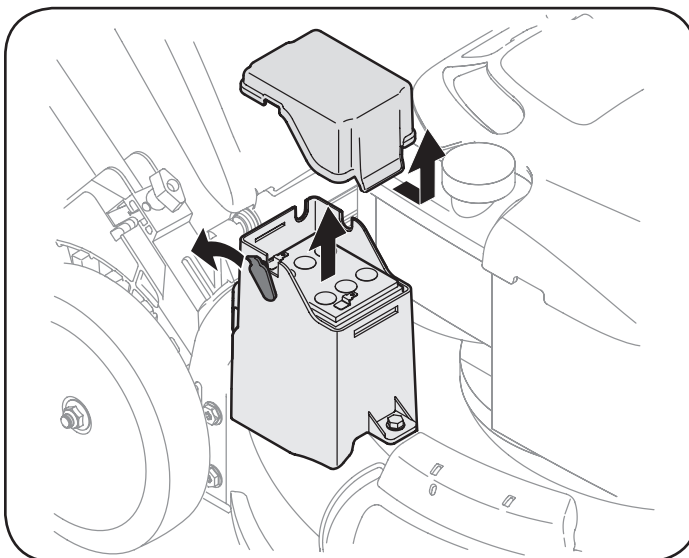

Figure 20
2. Remove positive and negative leads from battery, and pull up on battery to remove. See Figure 20.